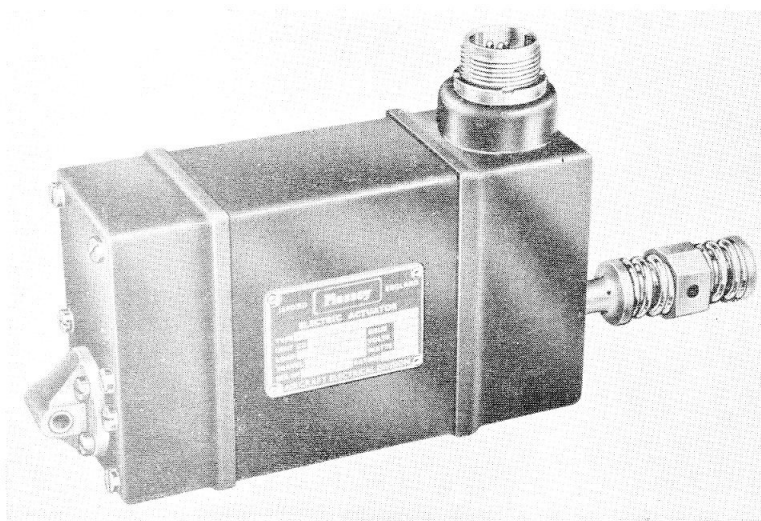

Fig. 1. General view of Jaguar (slow speed) actuator
4. A general view of a typical Jaguar actuator is shown in Fig. 1, and a unit in this slow speed range is shown sectioned in Fig. 2.